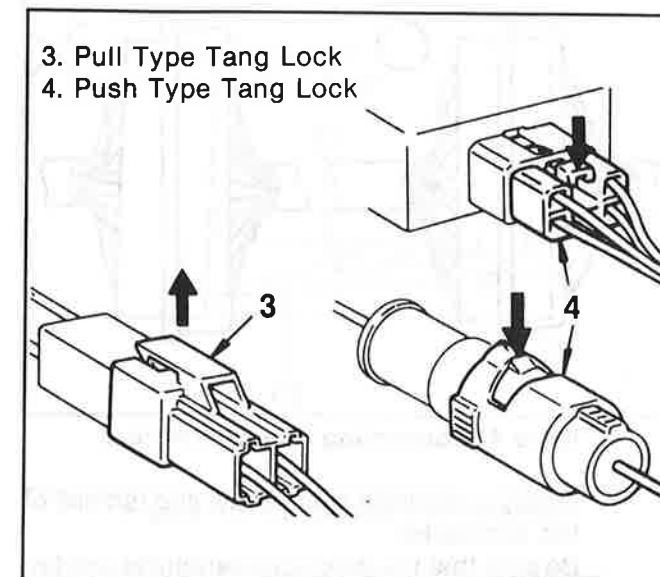

Figure 2. Disconnecting The Connectors (1)
Disconnecting The Connectors (Figures 2 and 3)
Some tang locks are released by pulling them towards you (3) (figure 2).
Other tang locks are released by pressing them forward (4) (figure 2).